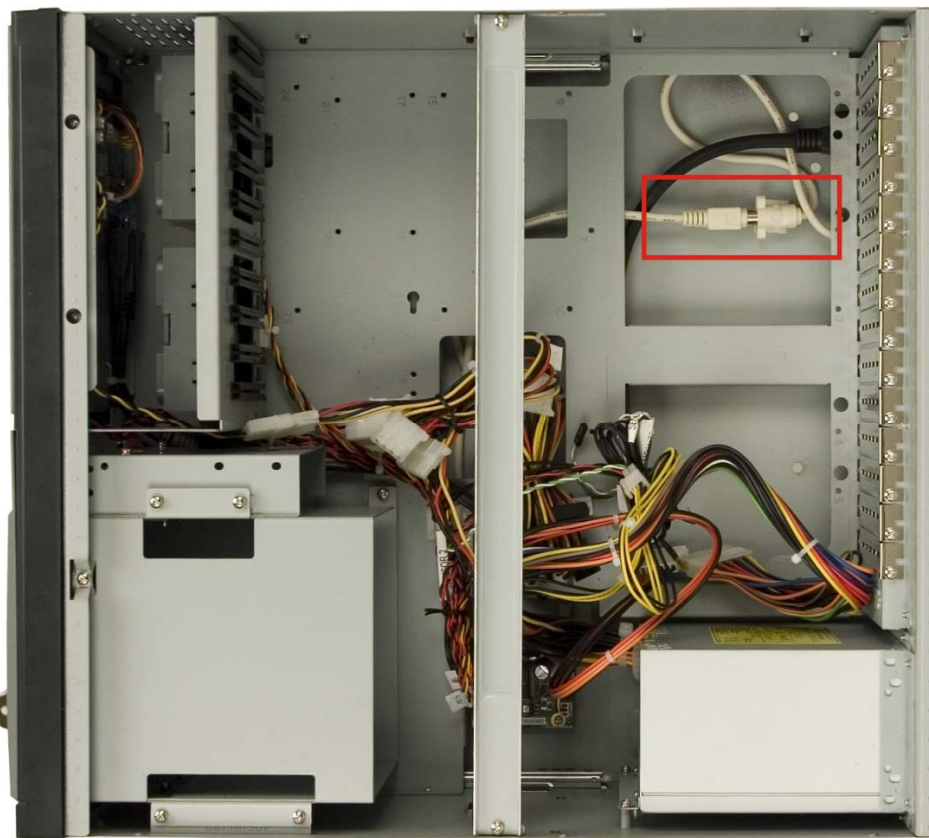

Figure 4-14: Internal PS/2 Connector
- Step 3:** Connect the keyboard PS/2 connector to the internal PS/2 connector (Figure 4-14).